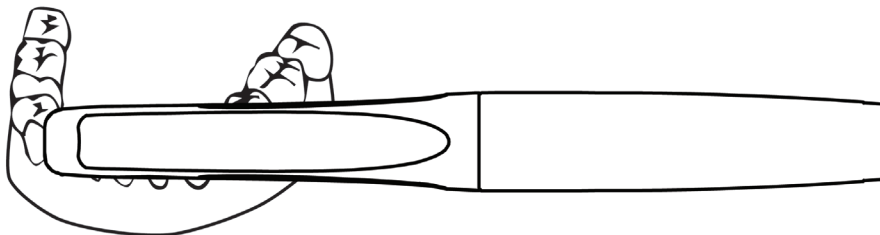

Figure 3. Toothbrush Style Orientations, Maxillary and Mandibular
- Wand can be held with one hand (Figures 1 and 2) or two hands (Figure 3)